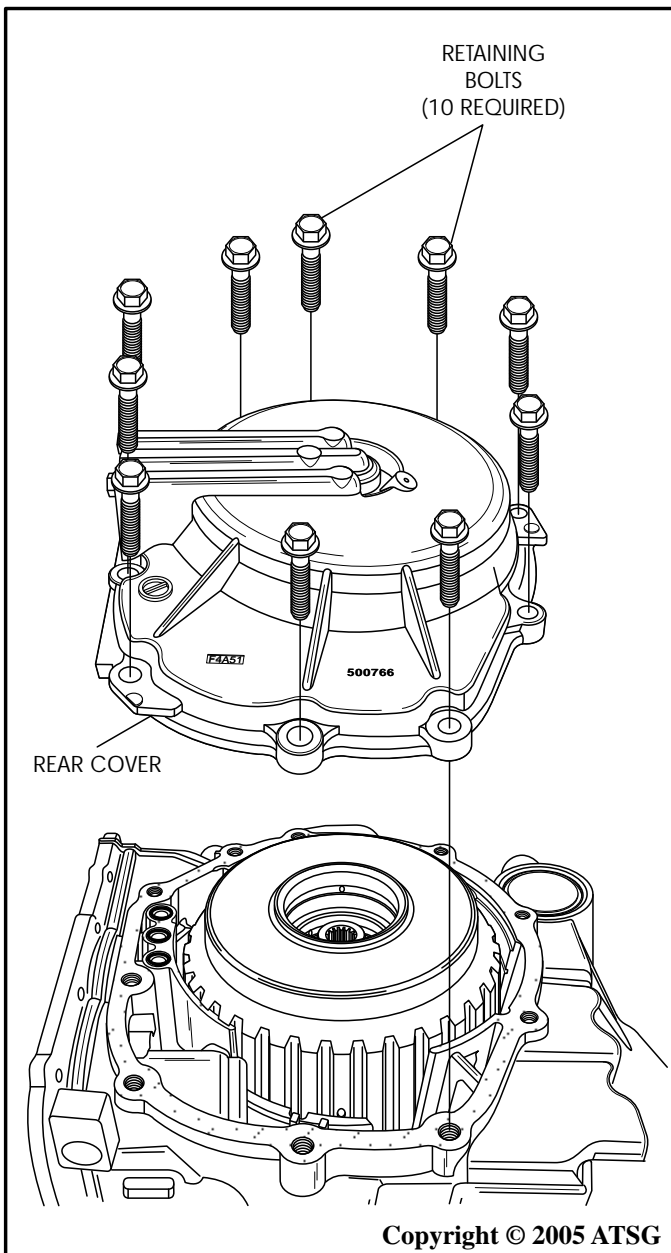

Figure 191
77. Ensure that "O" rings are in place on the case and install rear cover, as shown in Figure 191.
78. Install the ten rear cover to case retaining bolts as shown in Figure 191.